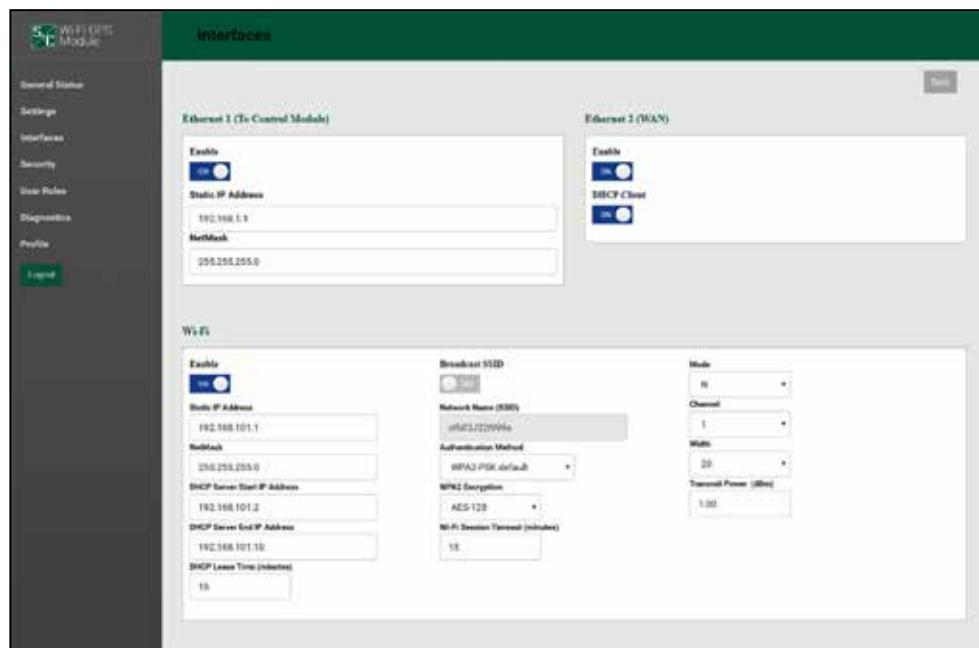

Figure 11. The default *Interfaces* screen.
In this panel, the network associated with the Wi-Fi/GPS Unit local area network (LAN) is defined for devices connecting to physical Ethernet Port 1. See Figure 11. The S&C Wi-Fi/GPS Unit ships with a default IP address of 192.168.1.1 and a Netmask equal to 255.255.255.0.
This panel defines the IP addressing for the Wi-Fi/GPS Unit's Ethernet Port 2 and subsequent network linkage and settings respective to the customer's legacy backhaul WAN network. The default setting is **DHCP Enabled**. See Figure 11.
The Wi-Fi panel is comprised of fourteen elements: the **Enable** button, **Static IP Address**, **Netmask**, **DHCP Server Start IP Address**, **DHCP Server End IP Address**, **Broadcast SSID** button, **Network Name (SSID)**, **Authentication Method**, **WPA2 Encryption**, **WPA2 Passphrase**, **Mode**, **Channel**, **Width**, and **Transmit Power (dBm)**. See Figure 11 on page 14.
- STEP 8.** Use the R3 Communication Module Web user interface to reassign the existing IntelliRupter Control Module **IP address** setpoint to the R3 communication module Ethernet 2 interface **Static IP address** setting. See Figure 11 on page 14.